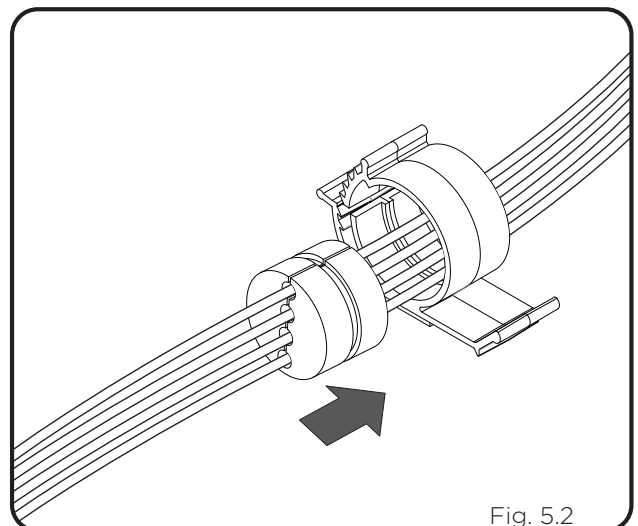

Fig. 5.2
- 5.2. Install the Rubber Grommet into the Rear Cable Clamp (do not tighten). (Fig. 5.2)